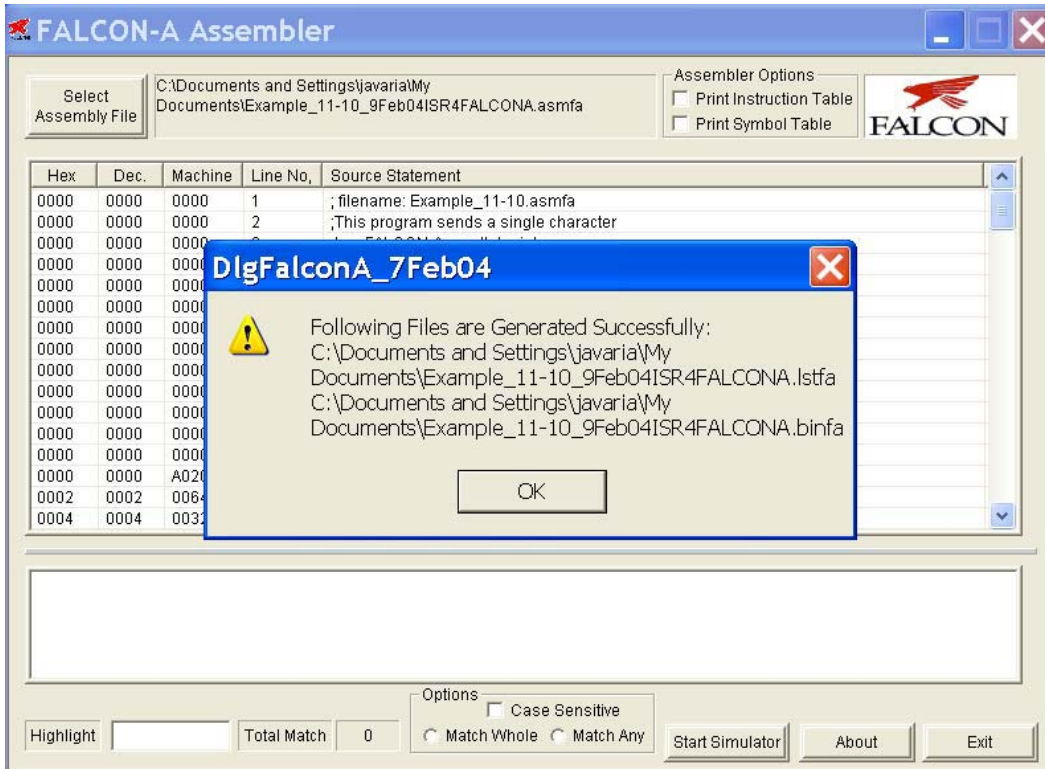

Figure 5
*Execute:* By choosing this button the user is able to execute the instructions with the options of execution with/without breakpoint insertion (refer to Fig. 5). In case of breakpoint insertion, the user has the option to choose from a list of valid breakpoint values. It also has the option to set a limit on the time for execution. This “Max Execution Time” option restricts the program execution to a time frame specified by the user, and helps the simulator in exception handling.